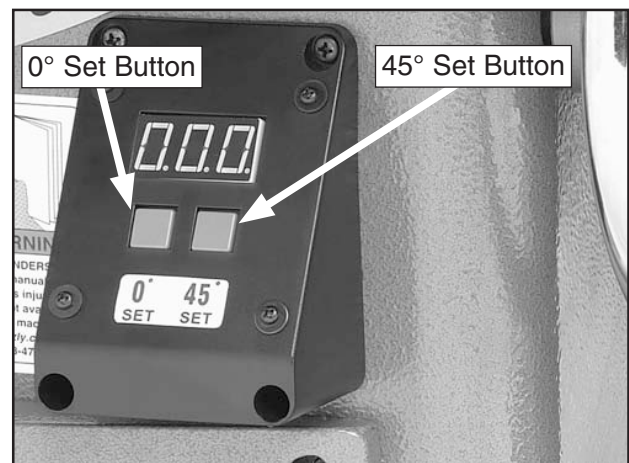

Figure 147. Digital readout.
2. Move the blade angle to 90° and press the 0° SET button (**Figure 147**) for several seconds until the readout displays 0.00, or move the blade angle to 45° and press the 45° SET button until the readout displays 45.0.